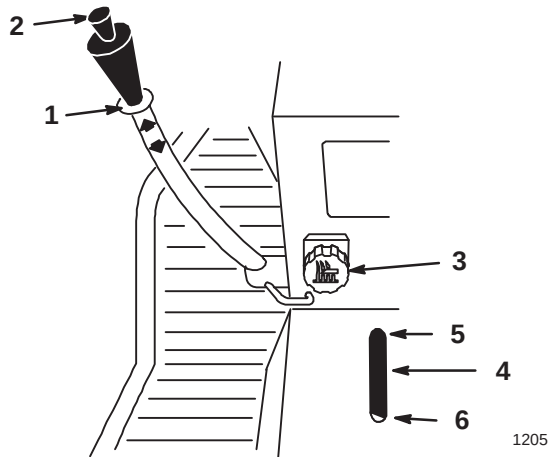

Figure 11
The attachment lift lever (Fig. 11) is used to raise and lower various attachments.
The Dial-A-Height control (Fig. 11) is used to limit the downward travel of the attachment. The Dial-A-Height knob (Fig. 11) can be rotated to change the stop location. Turn clockwise to raise and counterclockwise to lower the height of the attachment.
1. Raise the attachment lift lever: Refer to Raising Attachments. In the raised position the Dial-A-Height knob (Fig. 11) can be rotated to change the stop location. Turn clockwise to raise and counterclockwise to lower the height of the attachment.
2. The Dial-A-Height indicator (Fig. 11) will show the change, high to low, in attachment lift height as adjustment is made.